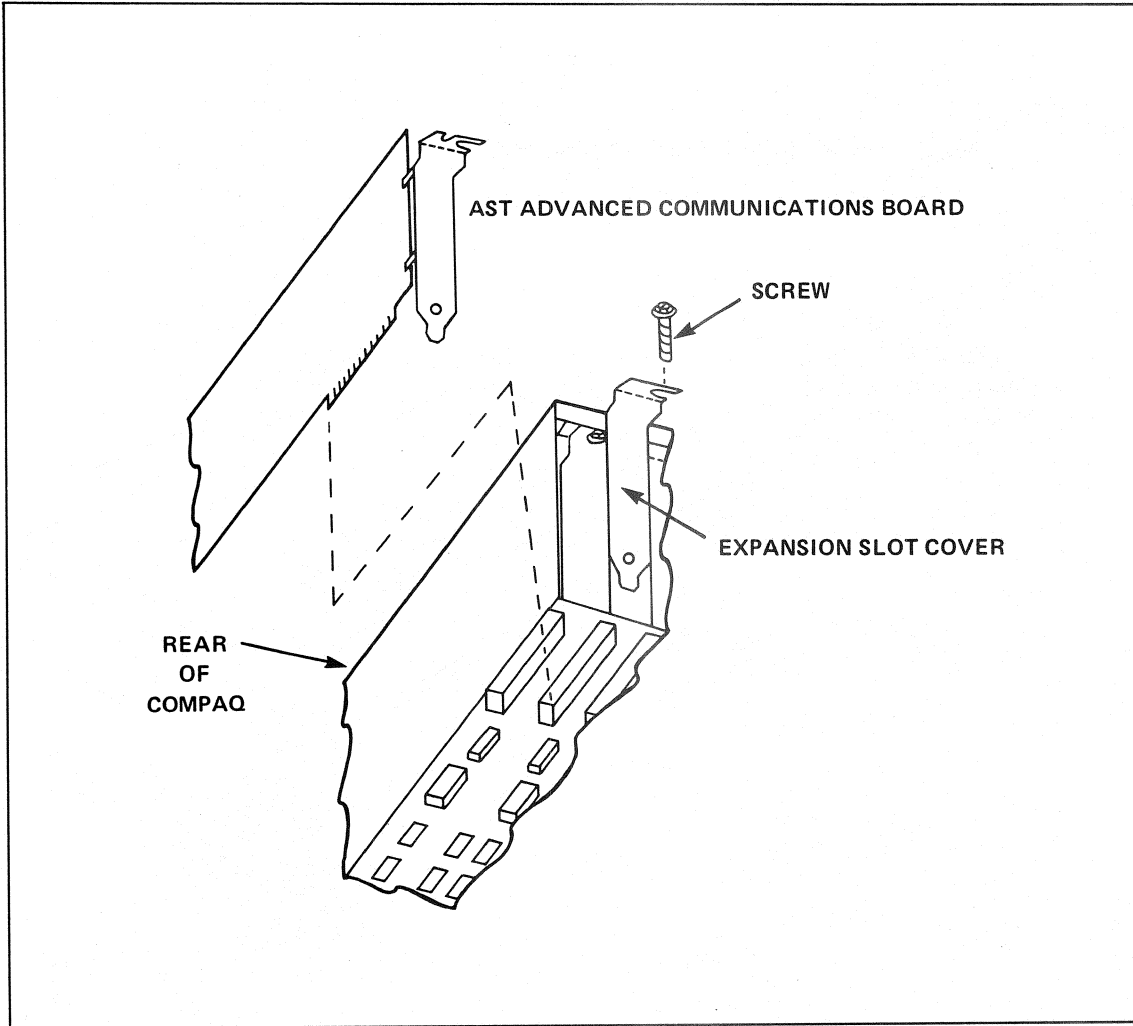

Figure D-4. Input/Output Compartment
**Step 6** – Remove the screw that secures the expansion slot cover. (See Figure D-4.) Remove and discard this cover. Do this in **either** of the 2 unused slots.
This fits into a metal fitting on the Board and secures it. (See Figure D-4.)